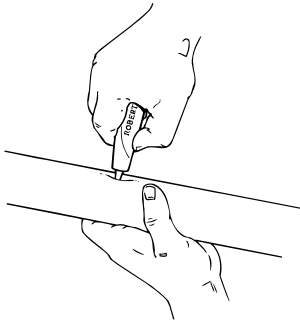

Figure 4.15 Creating a Hole in a Poly Hose Submain
Create a hole in the poly hose submain that is slightly smaller than the outside diameter (OD) of the transfer tube or barb fitting (fig. 4.15).